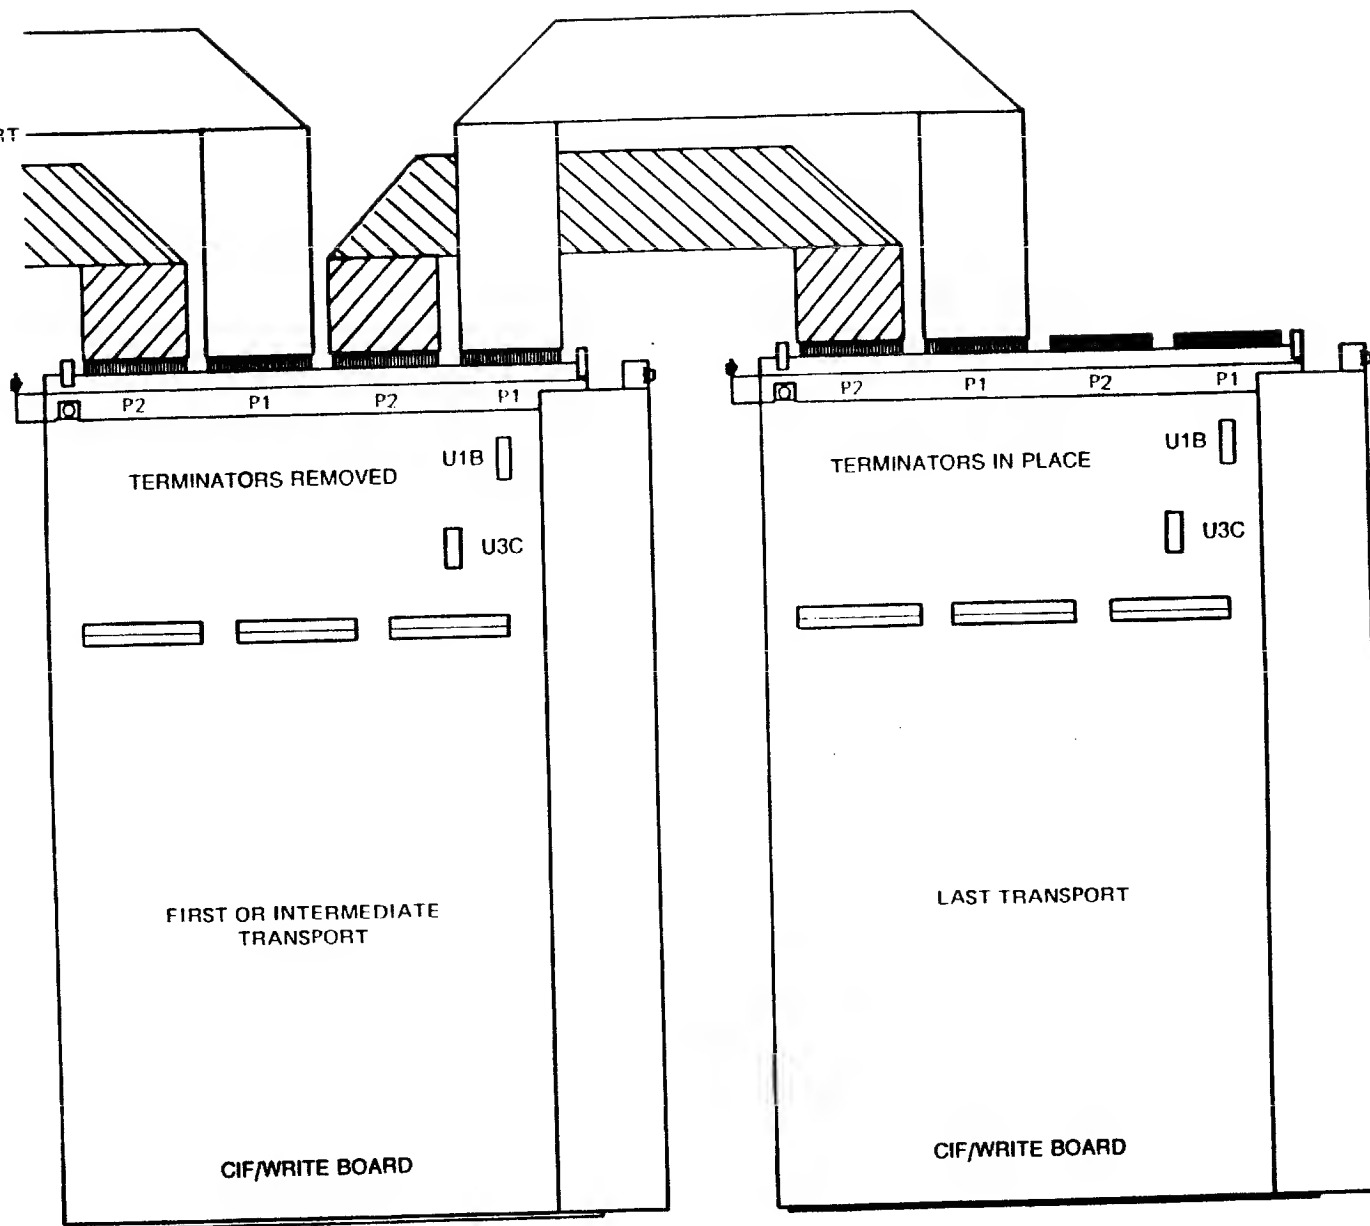

Figure 10. Daisy Chain Configuration
2. Remove terminator resistor pack U1B and U3C (Figure 10) from the CIF/Write PWB of each transport except the last one in the chain.
3. Install interconnection cables as shown in Figure 10.